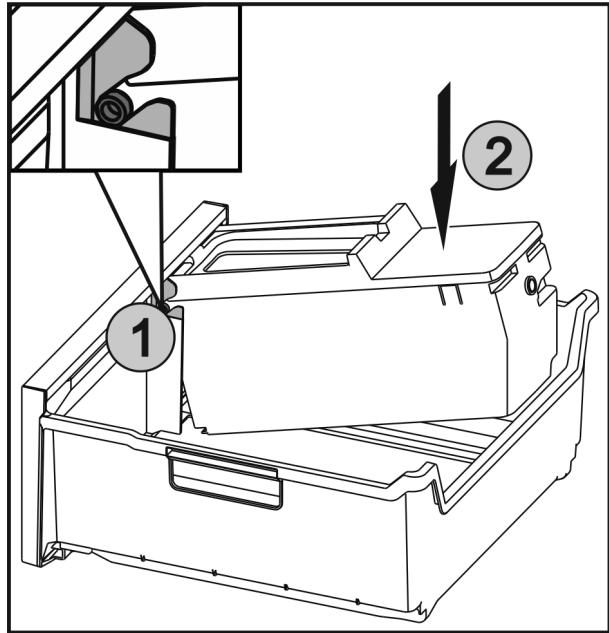

Fig. 54
- ▶ Insert the axles Fig. 54 (1) on the EasyTwist-Ice in the guides and push the rear side Fig. 54 (2) until the lug engages.